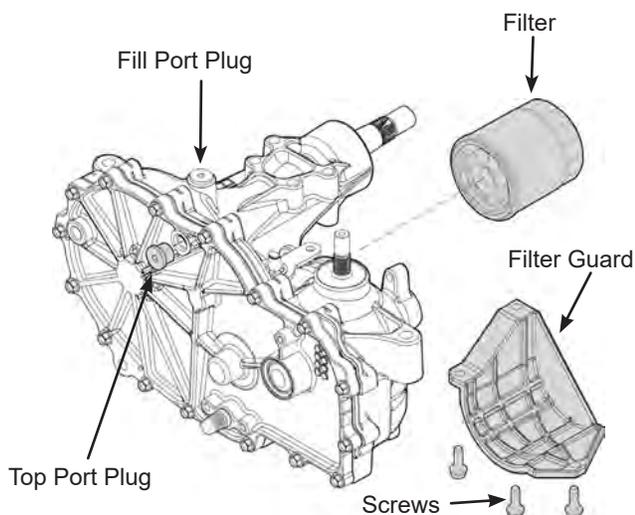
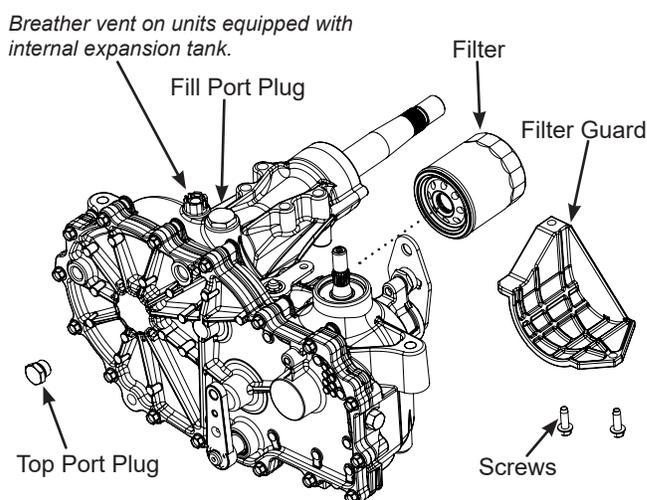

Figure 5, Unit Without Internal Expansion Tank
Figure 6, Unit With Internal Expansion Tank
Certain situations may require additional fluid to be added or even replaced. Refer to page 10 and figure 5 for the proper fill port location.
1. Remove the three 1/4" filter guard screws and filter guard as shown in figure 5 or the two 1/4" filter guard screws and filter guard as shown in figure 6. Clean any loose debris from around the perimeter of the filter. See figures 5 and 6.
8. Remove the top port plug (figure 6) from the left side and right side transaxles prior to filling with oil. This will allow the transaxles to vent during oil fill.
**Note:** For units that do not have an external expansion tank remove the fill port plug on the top of the housing (figure 6).
10. Fill with 20W50 motor oil until oil just appears at the bottom of each transaxle's top port (approximately 2 qts. per transaxle, 4 qts. total). Install the top port plug into each transaxle as the oil level reaches this port. See Figure 6.
**Note:** For units that do not have an external expansion tank replace the fill port plug on the top of the housing (figure 6), torque to 120 in. lbs. and proceed to the purge procedure on page 12.